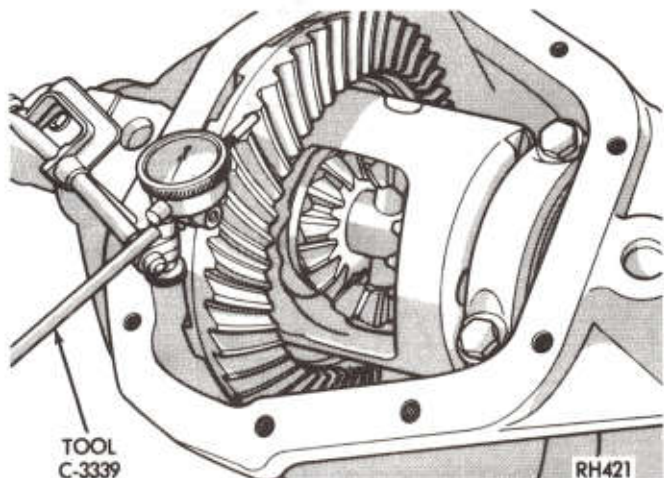

Fig. 45—Checking Backlash Between Drive Gear and Pinion
(17) Check ring gear and pinion backlash in three equally spaced points with dial indicator as shown in (Fig. 45).
(3) Remove differential and ring gear assembly from carrier.
(4) Remove differential bearing cones. Install the correct thickness shim pack determined in step (2) between bearing cone and differential case hub shoulder using Tool C-4025 and C-4171 handle. Add an additional .015 inch shim to the drive gear tooth side of differential and install the differential bearing cones. This additional .015 inch shim pack provides the correct bearing preload and backlash.
(5) Position spreader Tool W-129-A in locating holes of carrier and tighten screw finger tight. Install dial indicator and spread carrier .015 to .020 inch (.381 to .508mm). Do not exceed this limit to permit placing of differential and ring gear assembly in carrier.
(6) Install the bearing caps in their respective positions as indicated by identification marks on caps and carrier. Remove the spreader tool. Coat the bearing cap bolt threads with sealing compound and install and tighten bolts snugly.
(7) Tap the drive gear lightly with a rawhide hammer to properly seat the differential bearing and cups. **Care must be taken in this operation to prevent nicking the teeth of ring gear or drive pinion as they are meshed together.** Tighten the bearing cap bolts to 70-90 ft. lbs. (95-122 N·m).
(8) Attach a dial indicator to carrier and with indicator contact point contacting ring gear tooth (Fig. 45), measure the backlash between the ring gear and drive pinion.
(9) Check backlash at four equally spaced points around circumference of ring gear. Backlash must be held between .004-.009 inch (.101-.229mm) and cannot vary more than .002 inch (.050mm) between the four positions checked.